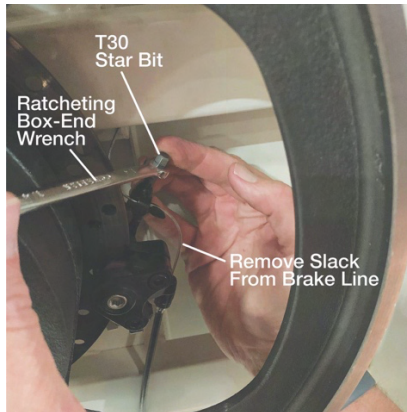

Figure 10-3
6. Using a T30 star bit and a 1/4" ratcheting box-end wrench, loosen the brake line set screw and remove the slack from the brake line by pushing the excess brake line past the brake line set screw (see Figure 10-3).